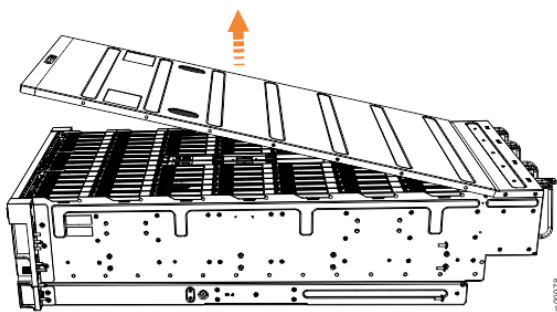

Figure 107. Removing the 5U expansion enclosure cover
4. Carefully lift the cover up, as shown in Figure 107 on page 158.